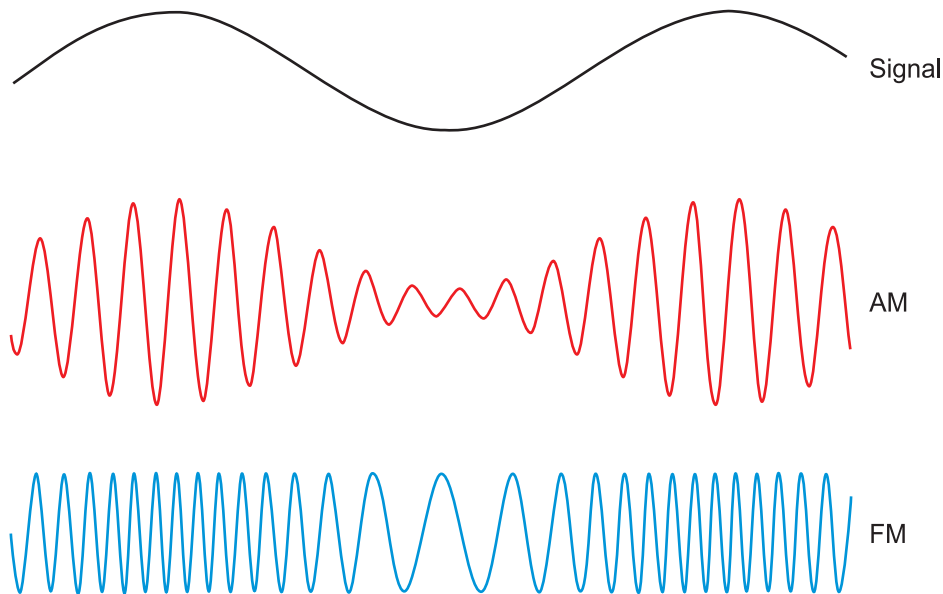

Figure 24.3: AM and FM modulation
Now, your exciter has generated the frequency that needs to be modulated with sound. Remember the full form of FM-frequency modulation. As you know, sound broadcasting can be carried by two different modes. One is called amplitude modulation (AM) and the other is called frequency modulation (FM). You have already learnt about them in Unit 24. For recapitulation, however, the wave forms of both these types of modulated signals are reproduced in Figure 24.3.